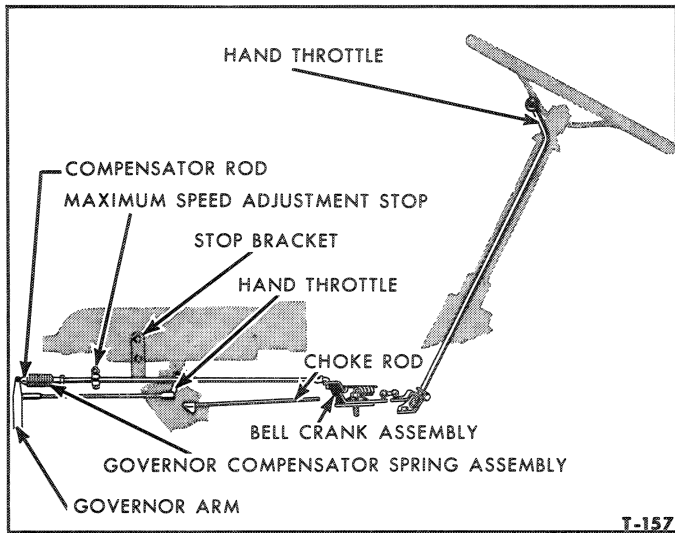

Figure 69—Governor and Control Linkage Adjustments
spring tension and governor action causes the engine speed to remain constant. Maximum engine speed is controlled by the adjustable stop on the throttle rod as shown in Figure 69.
2. To adjust the linkage, loosen the locknut at the carburetor rod clevis, as shown in Figure 69. With the hand throttle and carburetor lever in full open position, lengthen or shorten the rod as necessary to connect it to the throttle lever. Tighten the lock nut.
5. With the engine running under no load, open the hand throttle to the wide open position. If the engine rpm registers 2200 rpm on Series 501 through 701 tractors or 2400 rpm on Series 800 through 901 tractors, the governor is properly set. To adjust the linkage for the recommended speed, loosen the lock nut on the maximum speed adjustment stop, Figure 69. Start the engine and set the hand throttle until the Proof-Meter registers the correct rpm for the model being checked, then slide the maximum speed adjustment stop against the stop bracket on the cylinder block. Tighten the maximum speed adjustment stop lock nut.
6. If the throttle has a tendency to creep, remove the cotter pin from the castellated nut on the bellcrank, Figure 69. Tighten the nut as required to increase the spring tension. Install the cotter pin.